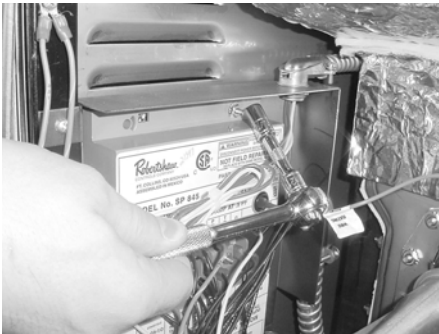

Figure 2-24
3. Using a 3/8 inch socket, remove the two nuts securing the module. Figure 2-24.